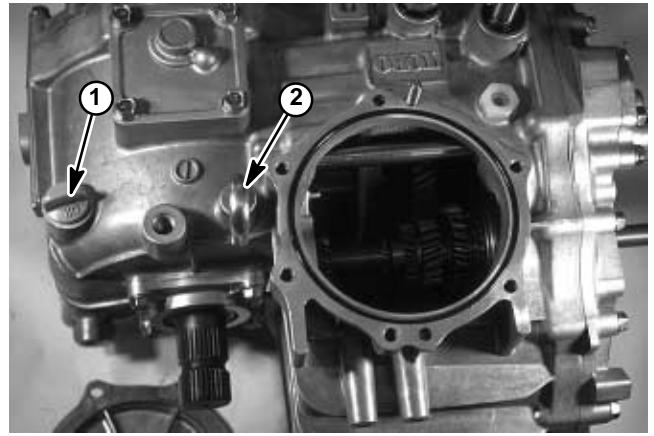

Figure 103
20. **On 4WD units**, install bearing to gear case and center plate. Install front drive shaft and 41T gear to the gear case (see Item 2 of Fig. 103).